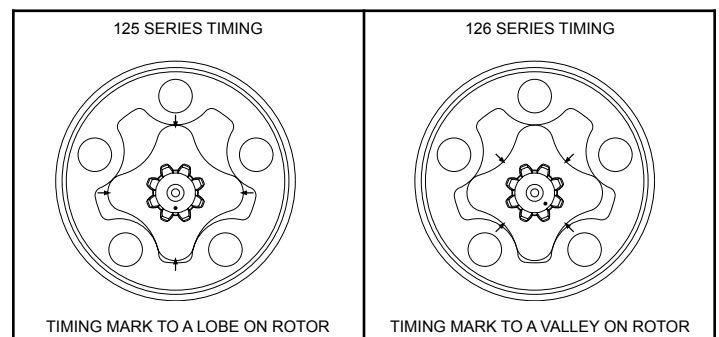

FIGURE 3 - DRIVE LINK / ROTORSET TIMING
- R) Install a new body seal (6) into groove in the rotorset and lower the rotorset onto the drive link with seal side contacting wear plate. If servicing a 125 series line up the timing mark on drive link (9) with one of the 4 lobes on the rotor, for a 126 series line the mark with one of the four valleys on the rotor. See Figure 3 for proper drive link / rotorset timing.
- S) Install a new body seal into both sides of the balance plate (12) and lining up bolt holes place balance plate onto rotorset (11).
- T) Making sure both steel check balls (13) are in the endcover (14) lower the endcover onto balance plate (12) and align bolt holes. *Note - If needed, the balance plate (12) can be placed on the endcover (14) to keep the steel check balls (13) seated in the endcover and placed on the rotorset together.*
- U) Install the three assembly bolt washers (15) onto each bolt (16). Insert assembly bolts (16) with washers (15) into bolt holes and pre-torque to 13.6 Nm [10 ft. lb.]. Final torque bolts to 35-40 Nm [25-30 ft. lb.].